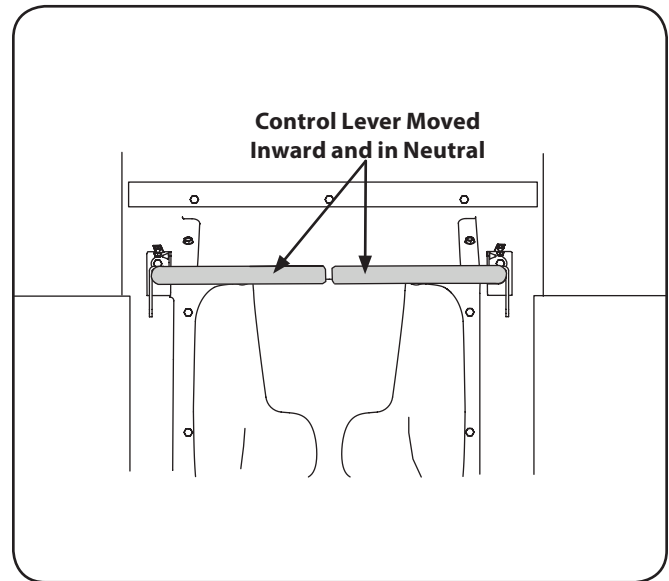

Figure 5-1
2. Move the RH and LH drive control levers inward in the neutral position. Refer to Figure 5-1.